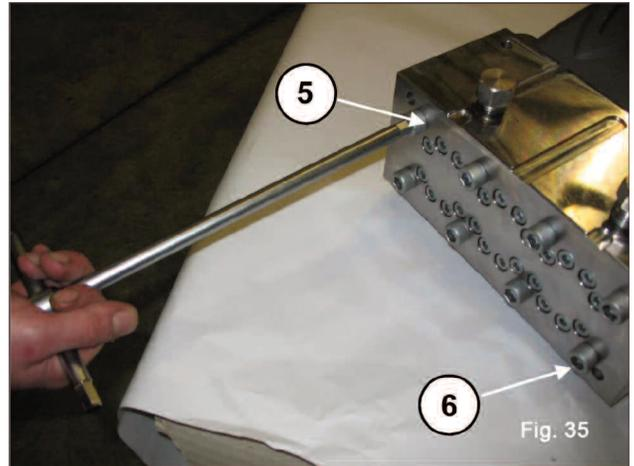
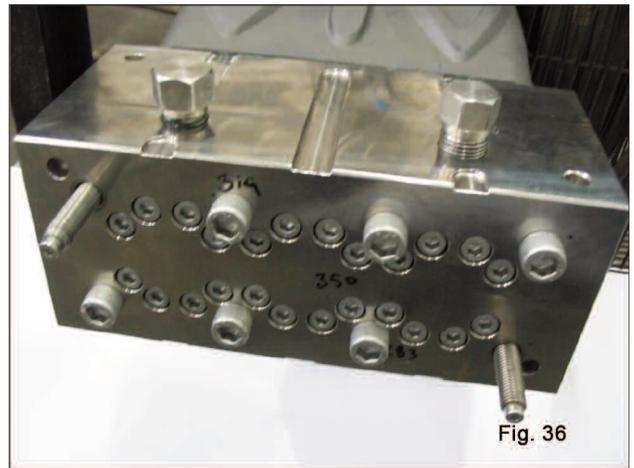

Fig. 35
Fig. 36
- Unscrew the M12 x 60 head fixing screws No. 5 and No. 6 as shown in fig. 35 replacing them with two service pins (p/n F27508200) as shown in fig. 36, then remove the remaining screws.